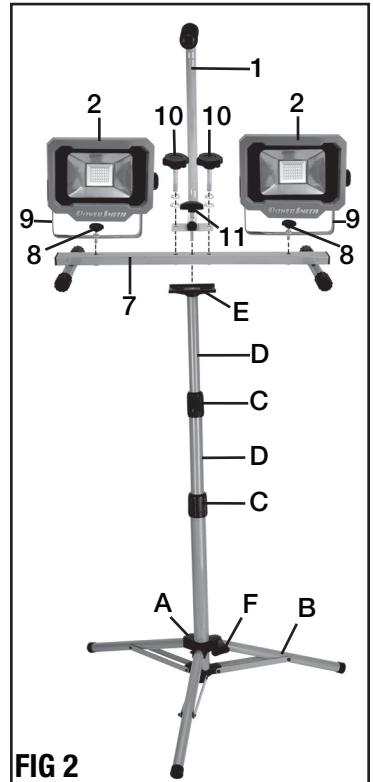

FIG 2
ADJUSTING THE TRIPOD (FIG 2)
ATTACHING CARRYING HANDLE TO STAND (FIG 2)
1. Place the carrying handle (1) vertically on the stand (7).
2. Use two locking knobs (10), flat washers and spring washers to secure the carrying handle to the stand as shown in FIG 2.
ATTACHING WORK LIGHT HEADS TO STAND (FIG 2, 3)
1. Place the stand (7) on a flat surface.
2. Use the locking knobs (8), flat washers and spring washers to secure both work light heads to the sides of the stand as shown in FIG 2.
ATTACHING THE WORK LIGHT ASSEMBLY TO THE TRIPOD (FIG 2)
1. Place the work light assembly on the top of the tripod. The bottom of the stand cross bar needs be sitting in the bracket (E).
2. Use the locking knob (11) to secure the work light assembly to the tripod as shown in FIG 2.